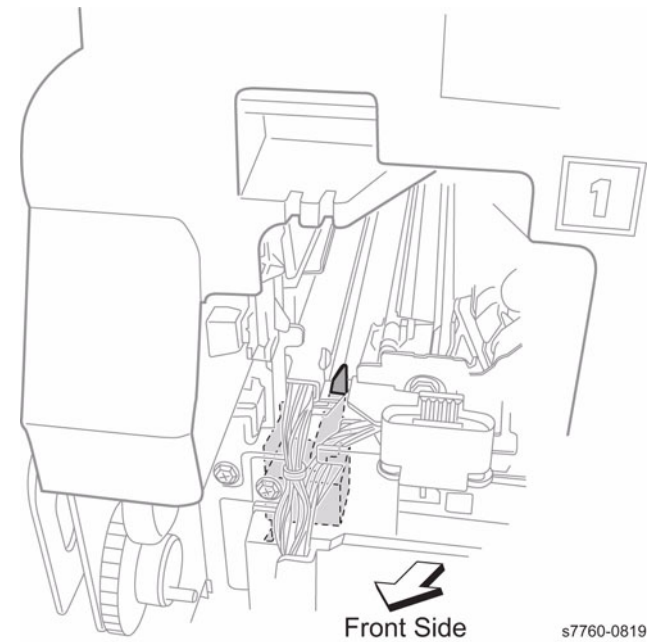

Figure 2 Installing ROS Shutter Motor
3. While installing the ROS Shutter Motor, verify that the Shutter Motor Assembly Level engages the notch in the Shutter Plate (Figure 2).